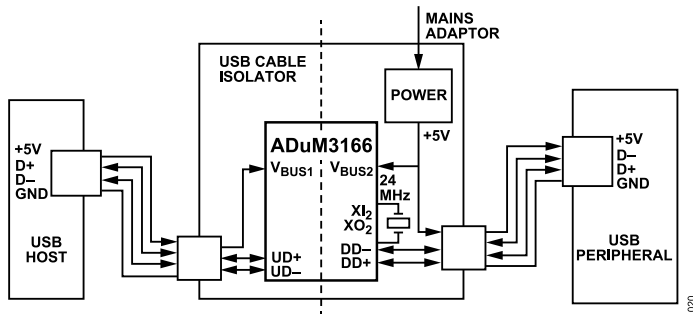

Figure 20. ADuM3166 USB Cable Isolator Application
The ADuM3165/ADuM3166 can be used to implement USB isolation into a standalone cable isolator, connecting to both hosts and peripherals. Either the ADuM3165 or the ADuM3166 can be used. In the example implementation shown in Figure 20, the ADuM3166 is used.
- ▶ Side 2 (downstream) power. The most convenient solution is usually to power Side 2 from the same power supply used to provide the 5 V on the USB cable. This power supply can be an independent supply, as shown in Figure 20, or via an isolated dc-to-dc converter that derives an isolated 5 V supply from the upstream USB cable power. When using an isolated dc-to-dc converter this way, it may be difficult to ensure the input current remains under the USB 2.0 limits for maximum permissible current drawn from the DFP of the host depending on the dc-to-dc converter efficiency and the output load, including Side 2 of the ADuM3166 together with any attached USB peripheral. An alternative in the case where an isolated dc-to-dc converter has an input current exceeding the USB 2.0 limits is to use an independent power supply for Side 2.